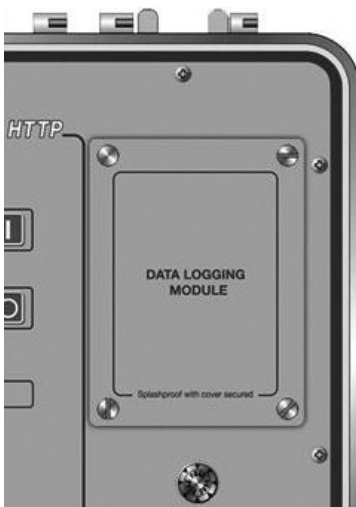

Figure 3.2
- Via the *Data Logger* software utility and the serial DB9 interface cable included with the logger. Data can be accessed by connecting the cable to the logger, which is located in the pocket on the front faceplate of the instrument. See **Figure 3.2**. e